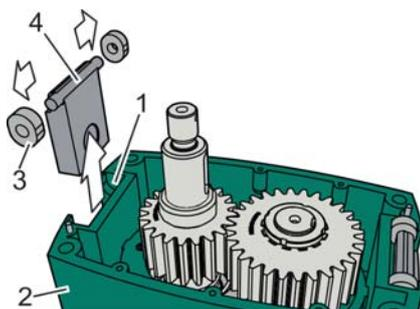

Fig. 96: Disassembling the transport eye, example
- 8. ➔ Remove the transport eye (Fig. 96/4) on both sides with the pivot bearings (Fig. 96/3) from the bearing pockets (Fig. 96/1) of the gearbox housing (Fig. 96/2).
- 9. ➔ Remove the pivot bearing (Fig. 96/3) from the transport eye (Fig. 96/4) and place to the side with the transport eye.